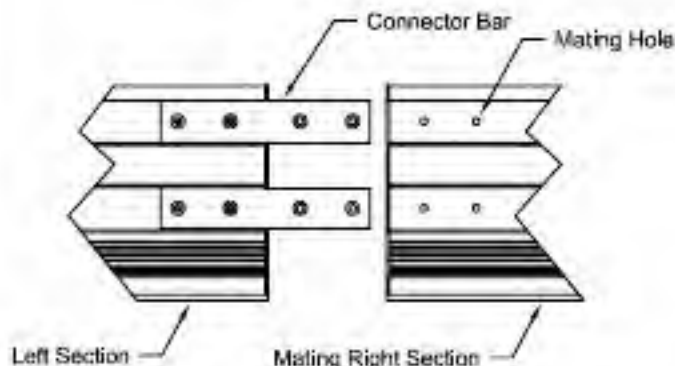

Figure 3
7. Align Connector Bar and Mating Section Holes. See Fig. 3.